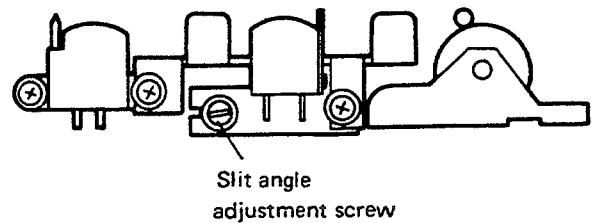

Fig. 18
5. Turn the adjusting screw on the head assembly to obtain maximum output as indicated on the voltmeter. Refer to Figs. 18 and 19.